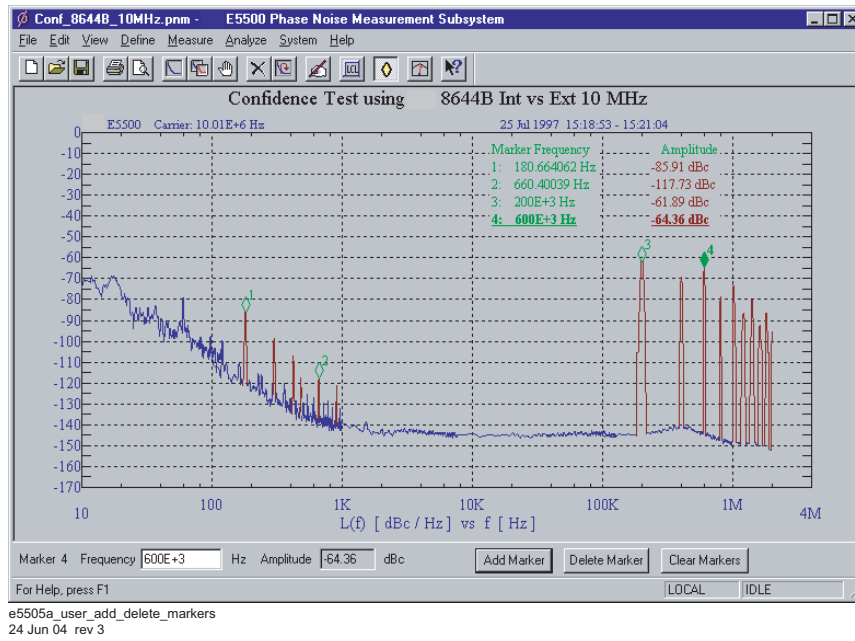

Figure 265 Add and delete markers
- 2 To remove the highlighted marker, click the **Delete** button. You may add as many as nine markers. See Figure 265 on page 341.